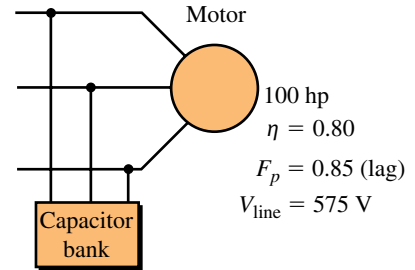

FIGURE 23–52
- 44. A motor (delivering 100 hp to a load) and a bank of power factor capacitors are connected as in Figure 23–52. The capacitors are rated $Q_C = 45$ kVAR. Reduce the problem to its single-phase equivalent, then compute the resultant power factor of the system.
- 45. The capacitors of Figure 23–52 are connected in Y and each has the value $C = 120$ μ F. Compute the resultant power factor. Frequency is 60 Hz.